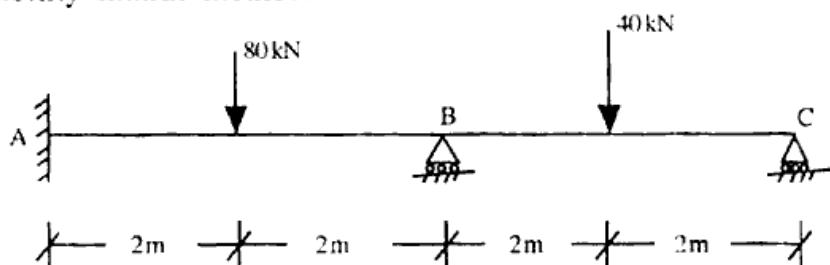

Fig. 8
9. Analyse the continuous beam shown in Fig. 8, if the downward settlement of support B and C are 10 mm and 5 mm respectively. Take $EI = 18 \times 10^{11} \text{ N}\cdot\text{mm}^2$. Use flexibility matrix method.